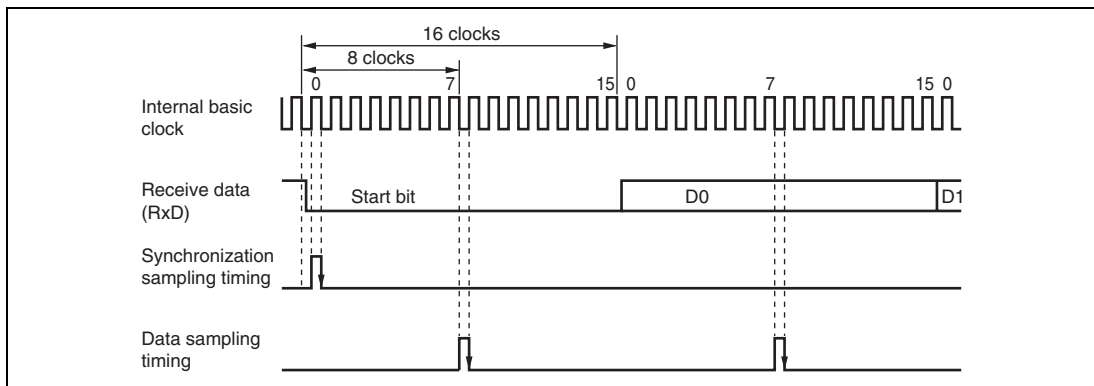

Figure 20.22 Receive Data Sampling Timing in Asynchronous Mode
In asynchronous mode, the SCI3 operates on a basic clock with a frequency of 16 times the transfer rate. In reception, the SCI3 samples the falling edge of the start bit using the basic clock, and performs internal synchronization. Receive data is latched internally at the rising edge of the 8th pulse of the basic clock as shown in figure 20.22. Thus, the reception margin in asynchronous mode is given by formula (1) below.